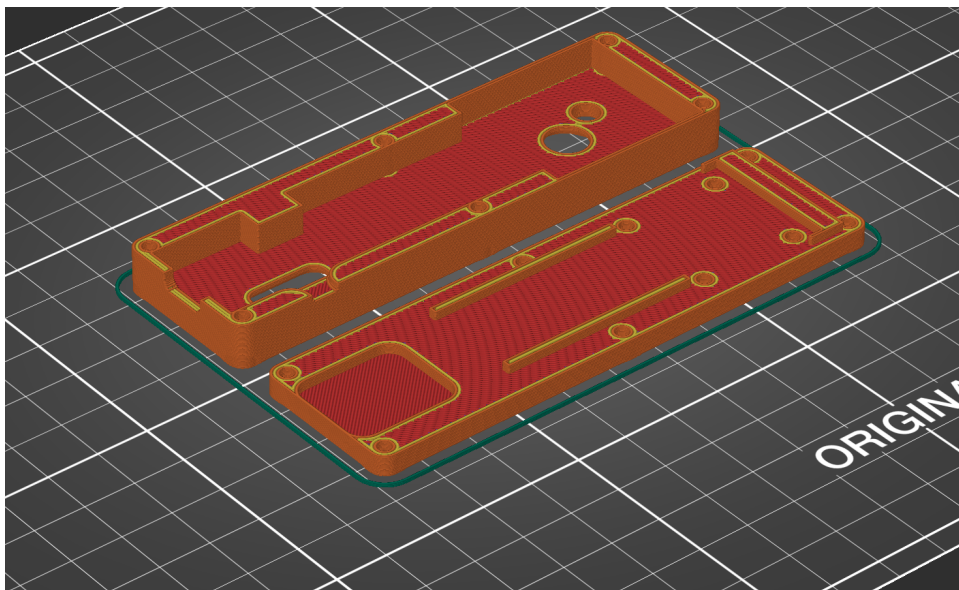

Figure 84: STL model of Electronics Enclosure *Top* and *Bottom* in slicer
1. Print the parts *Electronics Enclosure Top* and *Electronics Enclosure Bottom* (Fig. 84) using the following settings: